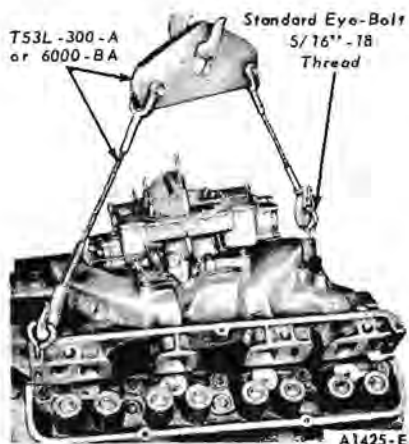

FIG. 16—Intake Manifold Removal or Installation
14. Install standard eye bolts with $\frac{5}{16}$ -18 threads in the left front and right rear rocker arm cover screw holes. Attach the engine lifting sling (Fig. 16).
lifting sling. Carefully lower the intake manifold on the engine (Fig. 16) and at the same time engage the coolant outlet nipple with the water pump bypass hose.